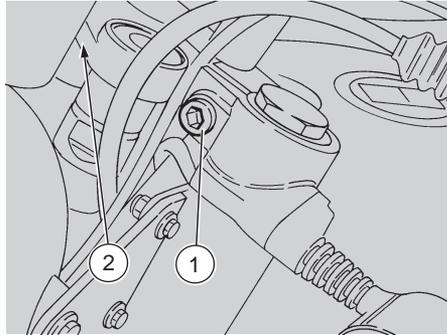

Fig. 42
- ◆ Loosen the two screws (1-2-Fig. 42).
- ◆ Tighten the screws (1-2 Fig. 42).